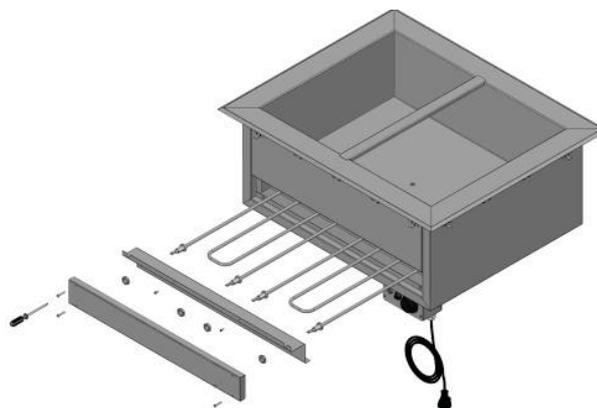

Fig. 4. Replacement of the heater for bain-marie basin
**Replacement of the heater (for drop-in bain marie basin only).** To replace heater: disconnect electrical power, unscrew bolts that fasten cover, disconnect wiring, unscrew bolts that fasten the holding panel, pull holding panel together with heaters, unscrew heaters holding nuts (fig. 4).